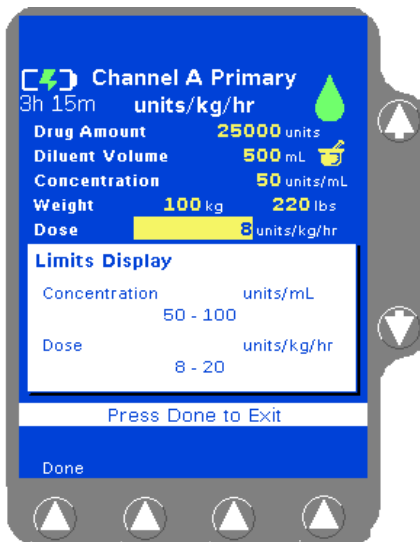

Figure 4-99 Limits Display Pop-up
3. The limits for the label are displayed in a pop-up window (Figure 4-99). Press the **Done** soft key to close the pop-up.